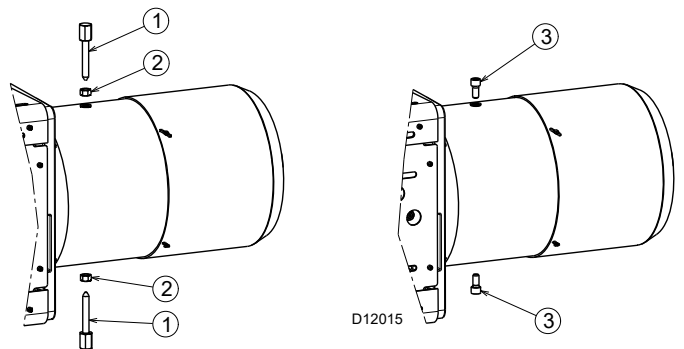

Fig. 11
- Remove the screws and the nuts 1)-2)(Fig. 11), before installing the burner on the boiler.